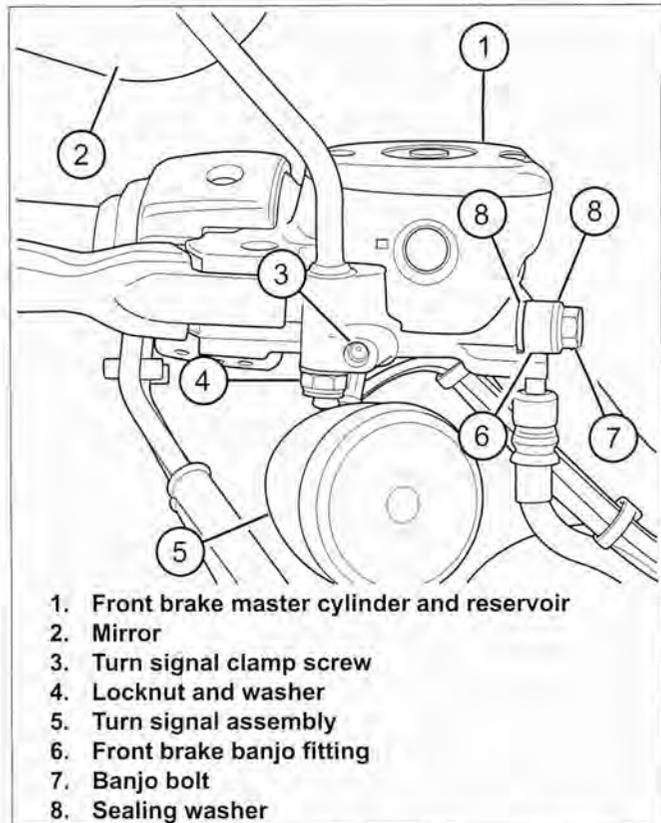

Figure 2-47. Front Brake Master Cylinder (typical)
- See Figure 2-47. Position a new washer (8) on each side of hydraulic brake line banjo fitting (6). Insert banjo bolt (7) through washers and fitting. Thread bolt into master cylinder housing. Tighten to 20-25 ft-lbs (27.1-33.9 Nm).
15. See Figure 2-47. Install mirror (2), secure with locknut and washer (4). Position mirror for best rearward visibility. Tighten locknut to 96-144 in-lbs (10.9-16.3 Nm).
16. **All Models except XL 1200X:** Install turn signal assembly (5). Position so turn signal lens faces directly forward and